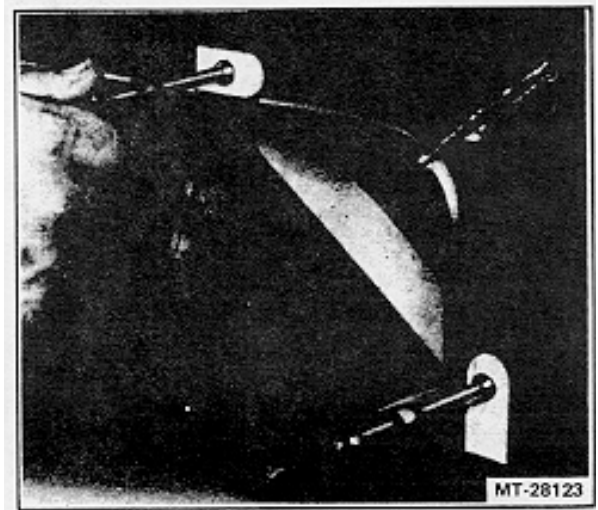

Figure 24 - Aligning Panel (Crack Shown - Typical)
2. If panel is out of alignment, realign it with C-clamps or other clamping device (Figure 24).